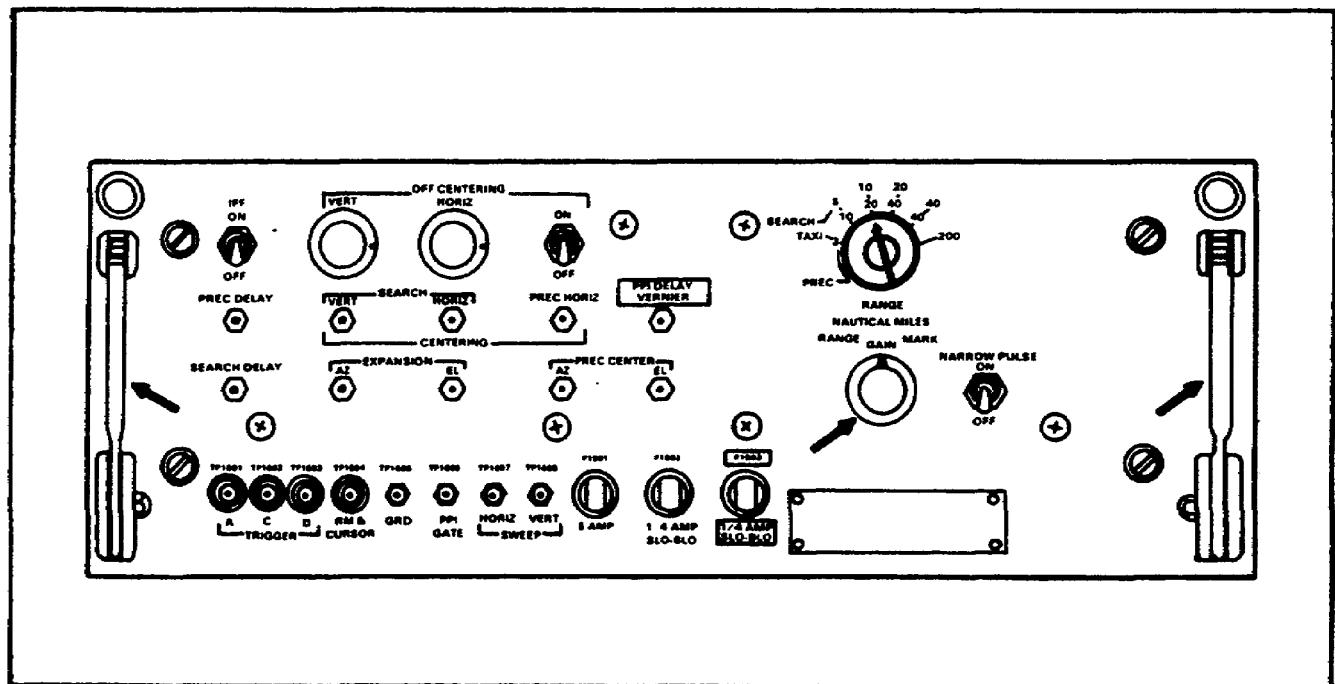

Figure 7. Synchronizer-generator, electronic-marker SN-386/FPN-40.
f. Locate range mark gain control R1512 and release latches on the synchronizer-generator, electronic-marker SN-386/FPN-40. (See Figure 7.)
- Synchronizer-generator, electronic-marker SN-386/FPN-40 (Figure 7)
- Release latches for various drawers (Figure 7)
- Range mark gain control R-1512 (Figure 7)